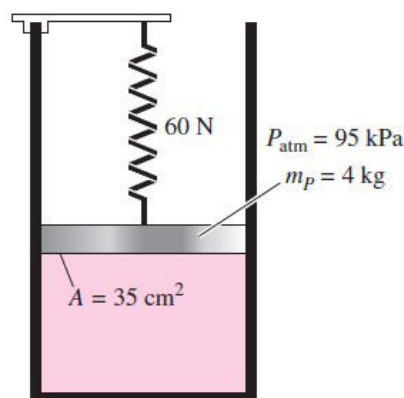

Fig. 1(D), Question 1(D)
(D) A gas is contained in a vertical, frictionless piston-cylinder device (Fig. 1(D)). The piston has a mass of 4 kg and a cross-sectional area of 35 cm². A compressed spring above the piston exerts a force of 60 N on the piston. If the atmospheric pressure is 95 kPa, determine the pressure inside the cylinder in kPa. **(02)**